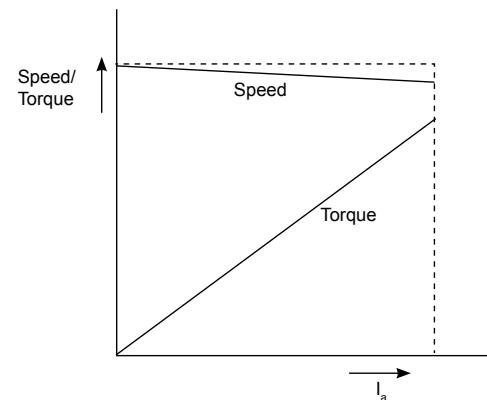

Fig. 6.11: Speed - Torque characteristics of a DC shunt motor
ii. DC Shunt motor: In case of a DC shunt motor, the flux Φ is constant. Hence the torque $T \propto \Phi I_a$ is directly proportional to the armature current, whatever the speed may be. As armature current (I_a) increases, torque (T) increases and vice-versa. Fig. 6.11 shows the torque characteristic of a DC shunt motor.